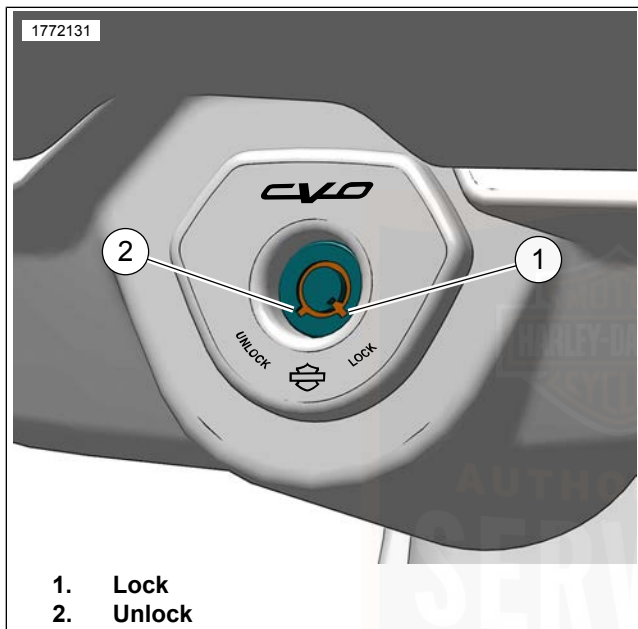

Figure 22. Fork Lock
See Figure 22. The fork lock is on the dash panel. Using the fork lock immediately after parking your motorcycle will discourage unauthorized use or theft. The fork lock can be locked and unlocked with the ignition key.
2. See Figure 22. Insert key and turn one-quarter turn counterclockwise to lock. Remove key.
1. See Figure 22. Insert key and turn one-quarter turn clockwise to unlock. Remove key.